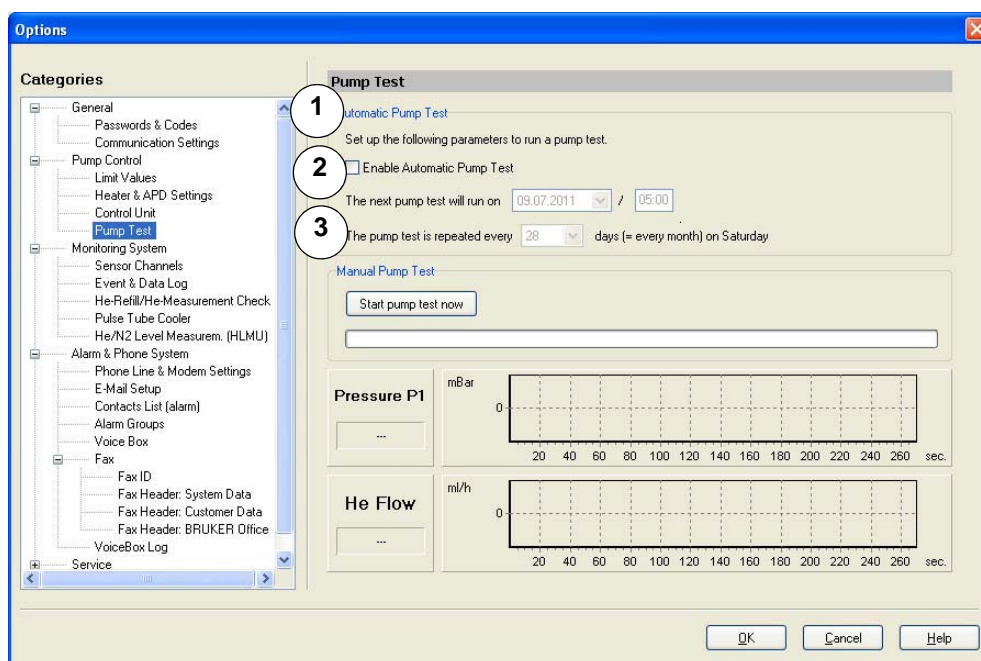

Figure 5.18 Tools - Options - Control Unit - Pump Test - Configuration
3. Check the „Enable Automatic Pump Test“ checkbox (Figure 5.18 1).
4. Select the date and time for the next test (Figure 5.18 2).
5. Select the interval for the test (Figure 5.18 3). A pump test once a month (every 4 weeks) is recommended.